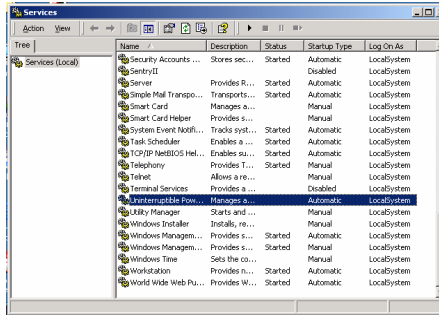

Figure 10 Services window
3. Double-click the Services icon. The Services window appears see Figure 10.